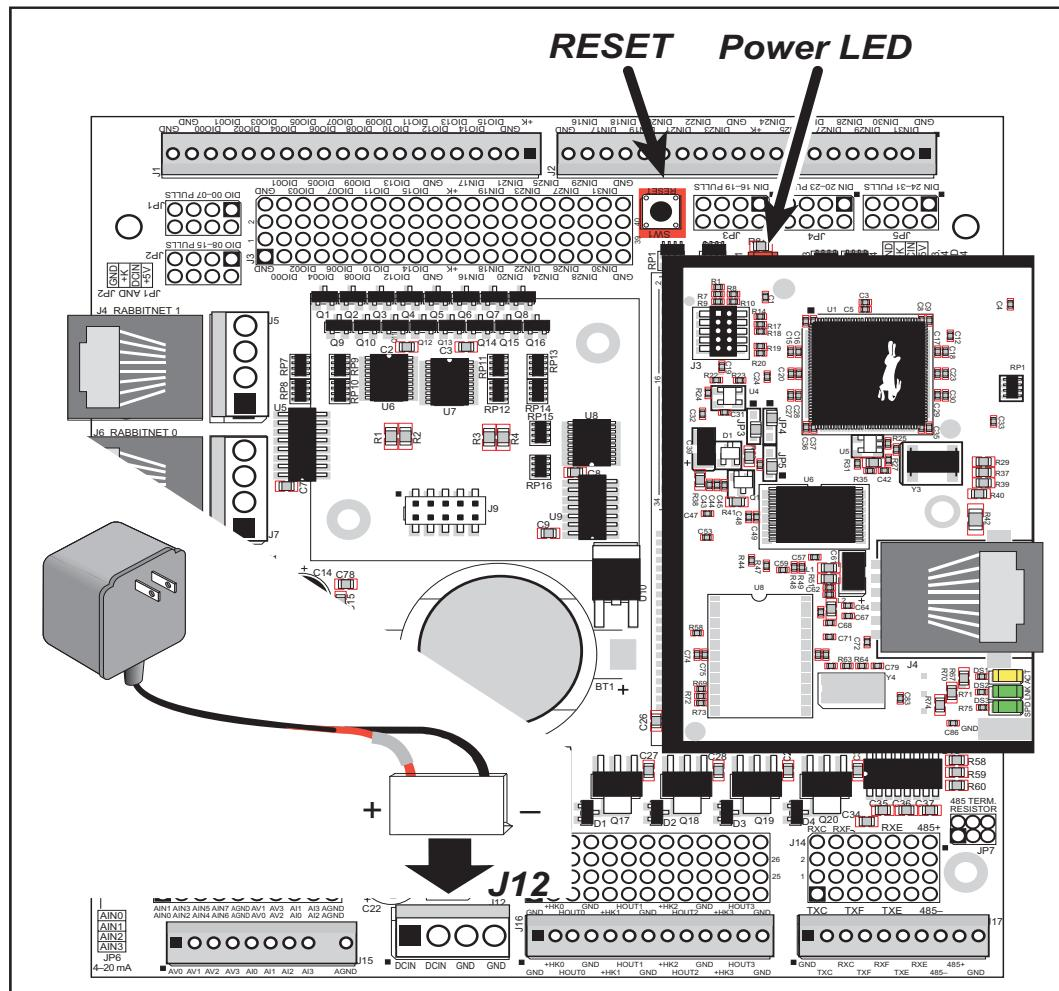

Figure 4. Power Supply Connections
2. Connect the power supply to header J12 on the BL2600 as shown in Figure 4. You can use the crimps and the friction-lock connector included in the Tool Kit to connect the leads from the power supply, then match the friction lock tab on the friction-lock connector to the back of header J12 on the BL2600 as shown. The friction-lock connector will only fit one way.